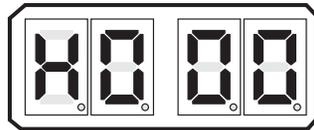

Figure 10-2: Display Troubleshooting Function
- C Depress the Up or Down Push Button repeatedly until H000 is displayed like Figure 10-2: Display Troubleshooting Function.